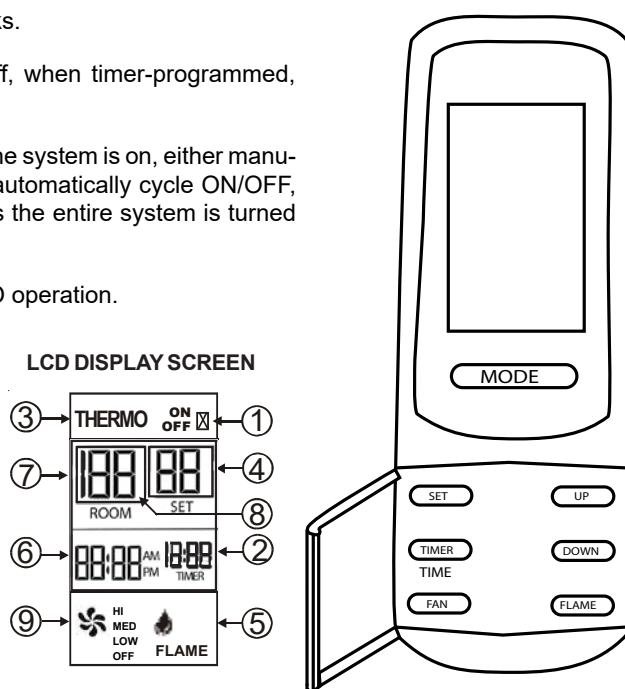

Figure 7. Transmitter LCD Display Screen
Insert 2 AAA-size 1.5V batteries into the battery compartment on the back of the transmitter. When the batteries are correctly inserted, the screen will display numbers (see Figure 7 for LCD Display Screen).
To operate the system, press the MODE button (Figure 7) on the transmitter to select the operational MODE desired.
1. Press and hold the TIMER/TIME button on the transmitter for more than two seconds. The hour digit(s) will begin flashing (see Figure 7, Location #6).
2. Push setting button and °F will begin flashing on the LCD screen (see Figure 7, Location #4).
1. Press and release the TIMER/TIME button on the transmitter. The word TIMER and 0:15 flash on the screen (see Figure 7, Location #2).
1. To turn fan ON, press and release the FAN button on the transmitter (see Figure 7, Location #9). The fan will operate at HI speed, and fan blade icon will appear on LCD screen.
1. Press and release FLAME button to change flame height to HI (see Figure 7, Location #5), (a second flame icon appears).